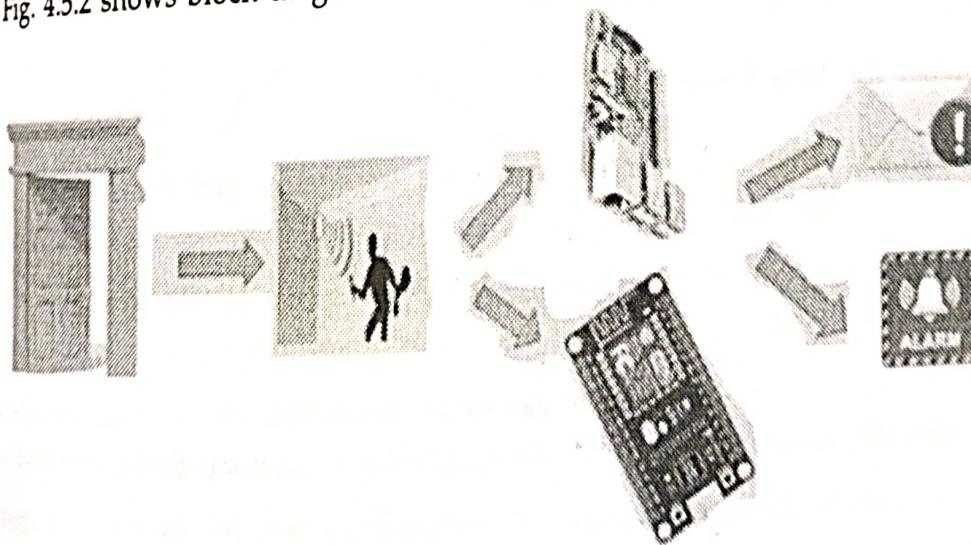

Fig. 4.5.2 Block diagram of Intrusion detection
- Fig. 4.5.2 shows block diagram of intrusion detection.